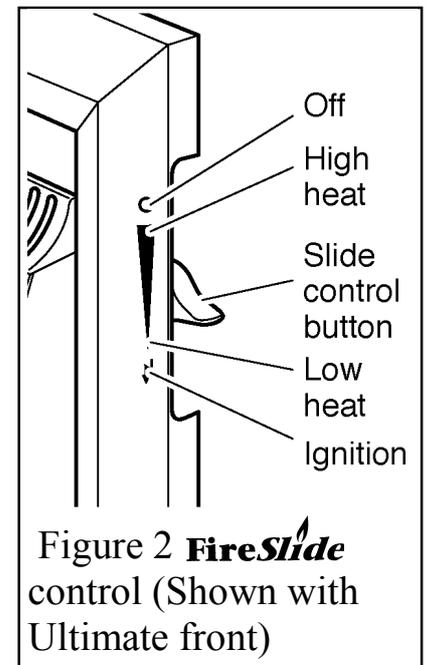

Figure 2 **FireSlide** control (Shown with Ultimate front)
The **FireSlide** control is shown in figure 2.
- ▶ If low heat is required, release the button. The button will automatically spring up to the low heat position shown in figure 2 (See note i).
- ▶ For a higher heat level slide the button upwards. The burner flames and heat output will gradually increase until the button reaches the high heat position shown in figure 2. When the button reaches the high heat position you will feel a check to its movement. **Do not slide the button above the high heat position unless you want to turn the fire off** (See note i).